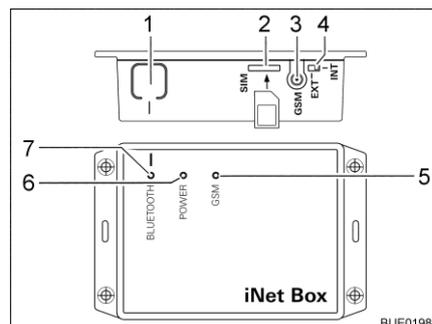

Fig. 240 Truma iNet-Box
- Press the BLUETOOTH button (Fig. 240,1) on the iNet-Box for 1 second. The Truma iNet-Box will be visible in the mobile terminal for approx. 2 minutes (name: "Truma iNet-Box"). During this period, the blue BLUETOOTH LED (Fig. 240,7) will be flashing.
- Carefully insert the mini SIM card with own telephone number and sufficient credit into the slot (Fig. 240,2) of the Truma iNet-Box as shown until it engages. The red GSM LED (Fig. 240,5) must be flashing continuously. If the red LED goes out after 20 seconds: Check mini SIM card.